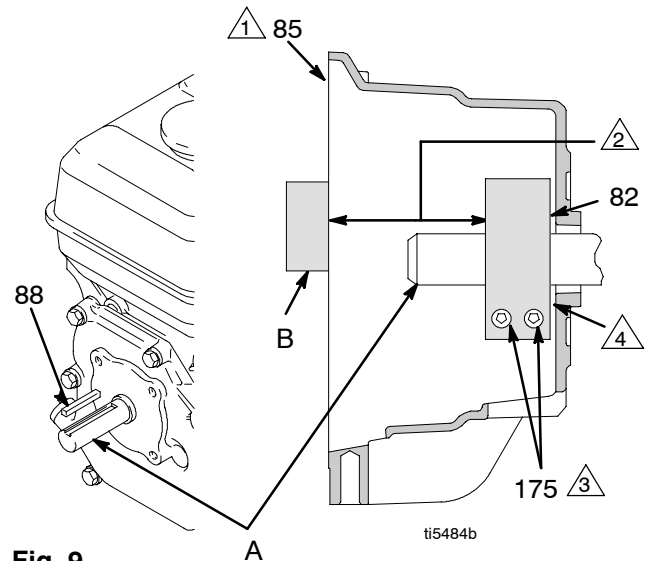

Fig. 9
4. Fig. 9. Loosen two screws (175) on clamp (82),
5. Push screwdriver into slot in clamp (82) and remove clamp.
1. Fig. 9. Install engine shaft key (88).
2. Tap clamp (82) on engine shaft (A) with plastic mallet. Maintain dimension shown note 2. Chamfer must face engine.
3. Check dimension: Place rigid, straight steel bar (B) across face of clutch housing (5). Use accurate measuring device to measure distance between bar and face of clamp. Adjust clamp as necessary. Torque two screws (175) to 125 ± 10 in-lb (14 ± 1.1 N.m).